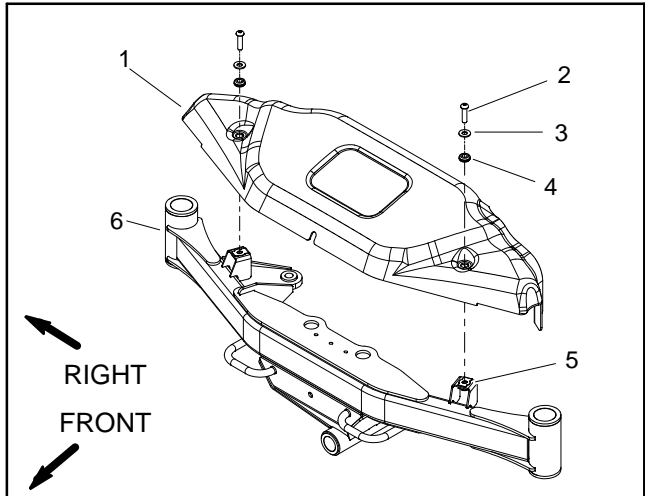
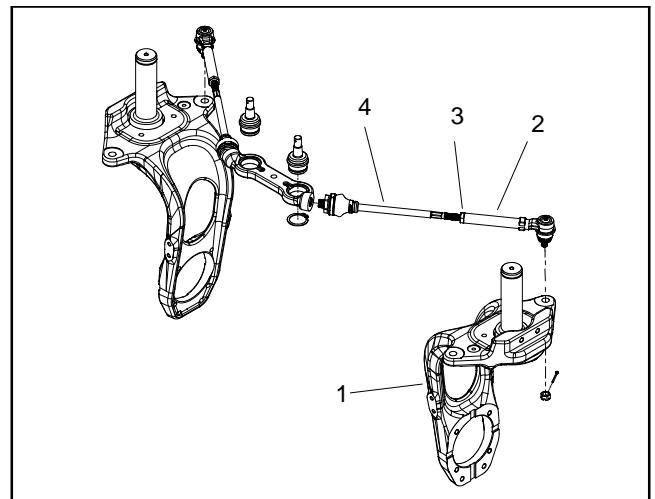

Figure 5
Figure 9
3. Remove front cover from front axle to allow access to front steering components (Fig. 5).
10. If straight edge does not contact the tires at four (4) points, adjustments to tie rods are necessary to align wheels (Fig. 9).
11. After tie rod adjustment has been completed, make sure that straight edge contacts the front and rear tires at four (4) points. Repeat tie rod adjustment if necessary.
- D. Install front cover to front axle (Fig. 5).